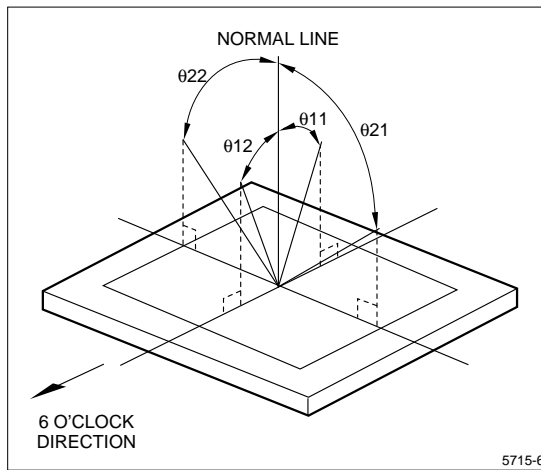

Figure 6. Definition of Viewing Angle
- Figure 6 shows the definitions of the viewing angle range.